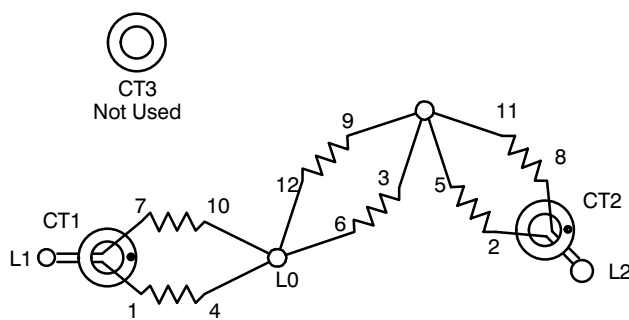

**Figure 1. Assembly**
1. Remove junction box side covers. See Figures 1 and 2 for parts and positions.
3. Assemble bus bars, support angles, insulating standoffs and terminal lugs as shown in Figure 1. Install assembly in junction box.